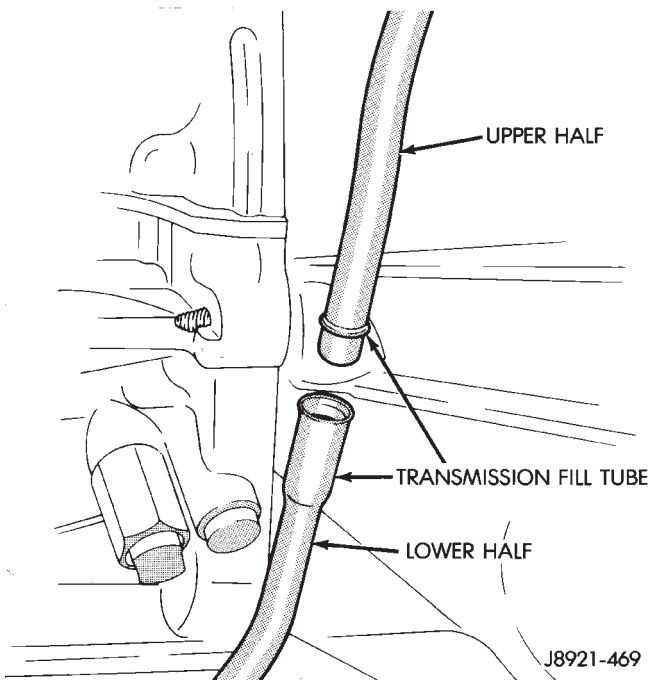

Fig. 33 Transmission Fill Tube (Two-Piece)
- (1) Raise vehicle.
- (2) Drain transmission fluid and reinstall oil pan drain plug.
- (3) On models with 2-piece fill tube, remove upper half of tube (Fig. 33).